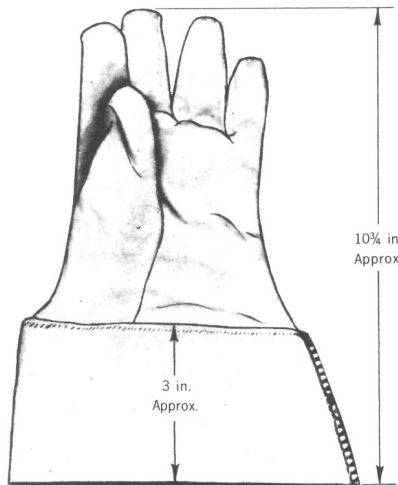

FIGURE 3. Fabric Liner Glove.
- 4.01 Fabric liner gloves are formfitting gloves made of lightweight interlock knit cotton cloth. They are equipped with 3" wide rubberized fabric gauntlets. The overall length of the gloves is about 10-3/4". See Figure 3.